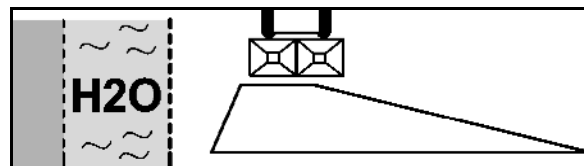

Fig. 71
1. Boundary spreading in accordance with fertiliser ordinance (Fig. 71):
For **boundary spreading** (as per fertiliser ordinance) (Fig. 71) and **side spreading** (beside your own areas to be treated in the same way) (Fig. 73), replace the **left Omnia-Set spreading discs** (left side spreading), viewed in direction of travel, **with** the appropriate boundary **Tele-Set** spreading disc.